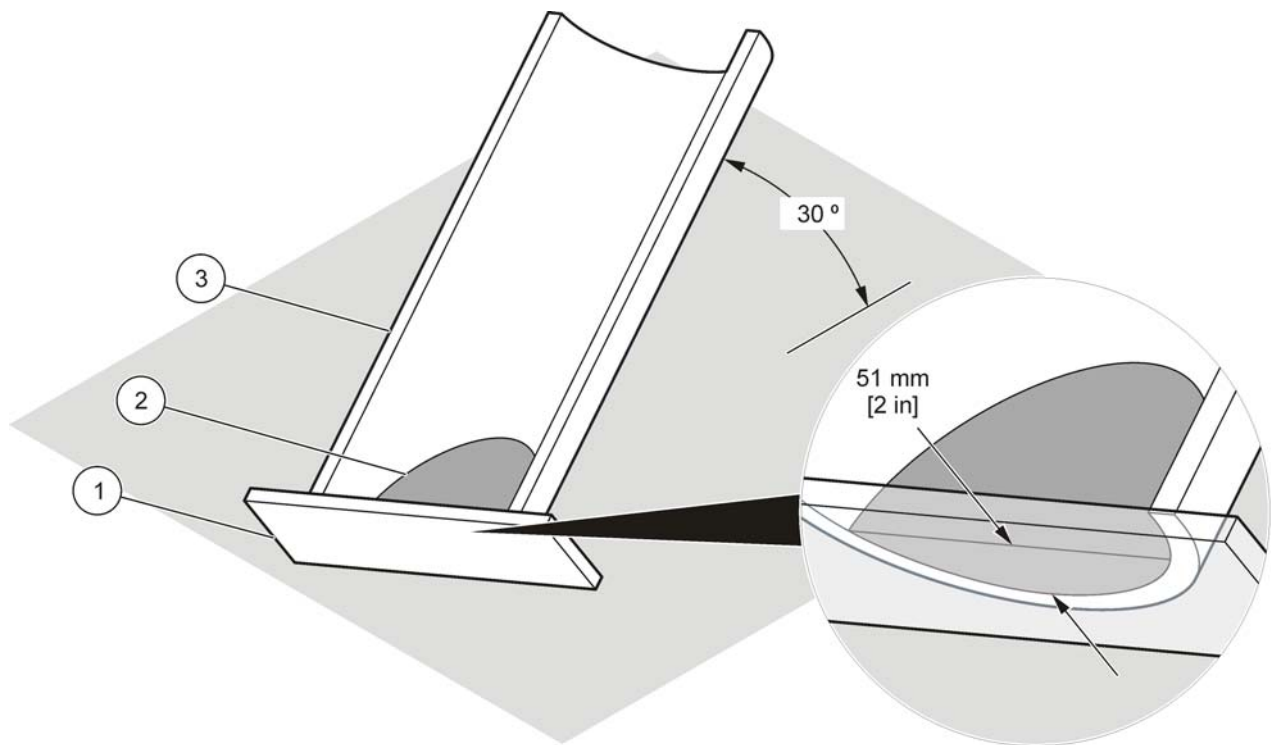

Figure 5 Low-flow dam construction
1. Make a mold for the dam from a section of pipe with the same diameter as the dam site. Place a board at one end of the pipe, and angle the pipe to approximately 30° (refer to Figure 5).